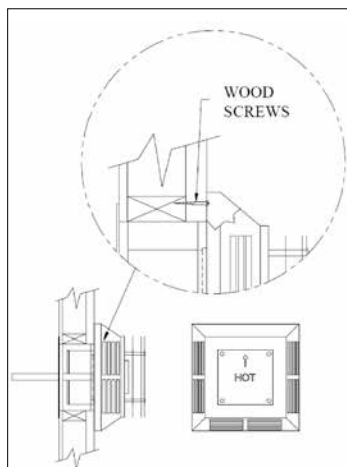

Figure 36: Fastening Horizontal Termination Cap in Place.
- (1) Any horizontal run of vent must have a ¼ inch (6mm) rise for every 1 foot (305mm) of run towards the termination. Never allow the vent to run downward. This could cause high temperatures and may present the possibility of a fire.
- (2) The location of the horizontal vent termination on an exterior wall must meet all local and national building codes, and must not be easily blocked or obstructed. Termination clearances must comply with the VENT TERMINATION RESTRICTIONS section.
Step 4. For a Square Horizontal Vent Termination, place the vent cap in the center of the square hole and attach to the exterior wall with the four wood screws provided (refer to Figure 36). Before attaching the Vent Termination to the exterior wall, run a bead of non-hardening sealant around its outside edges, so as to make a seal between it and the wall. If you are using a Round Horizontal Vent Termination, place an exterior Wall Firestop over the square hole. Run a bead of non-hardening sealant around the edges of the Wall Firestop, and attach the Wall Firestop to the wall with the four wood screws provided. The arrow on the vent cap should be pointing up. Ensure that proper clearances to combustible materials are maintained.